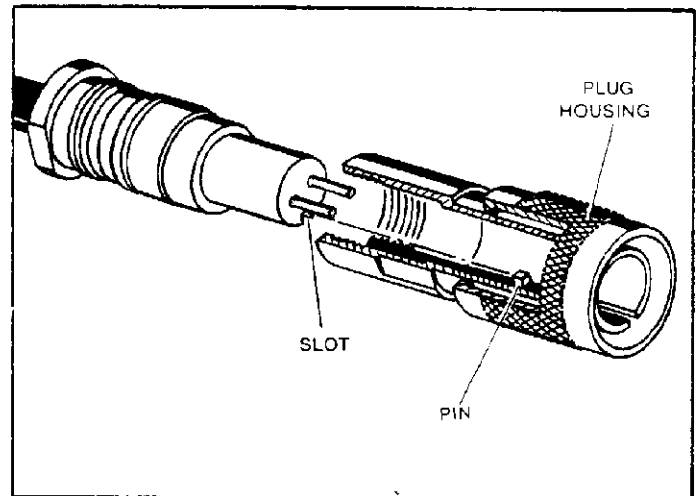

Figure 8
- (l) Insert assembly into plug housing, aligning slot in insulator with pin inside plug housing. Tighten clamp nut to 50 to 60 inch lbs. (Figure 8)